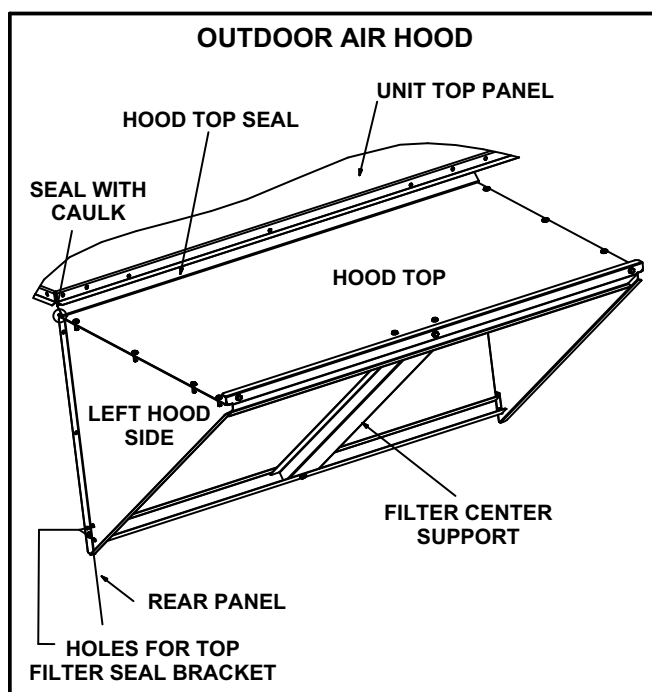

FIGURE 24
- 9 - Slide two filters into slot of the bottom filter seal bracket. Insert a filter spacer between the two filters and secure it to the hood top panel. Use the provided threaded hex insert and a #10 - 32 X 1/2" thread forming screw to secure the hood top filter bracket. See figure 24.